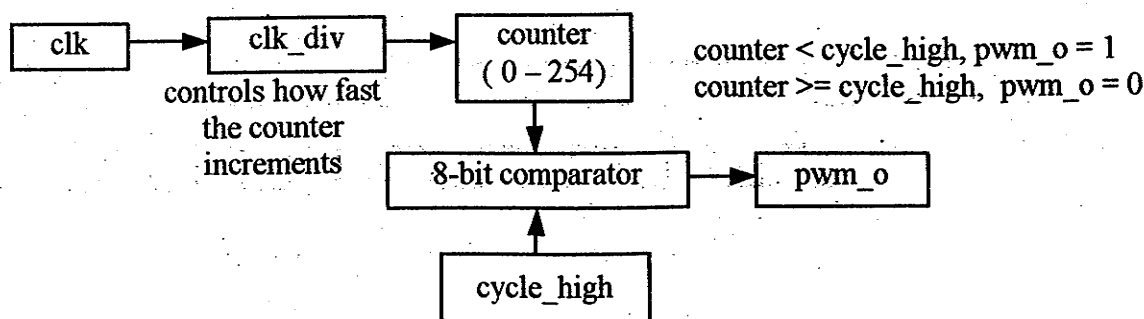

Fig 1(a): Internal Structure of PWM
* There are two 8 bit registers called clk-div and cycle-high, an 8 bit counter and an 8-bit comparator as shown in fig 1(a).